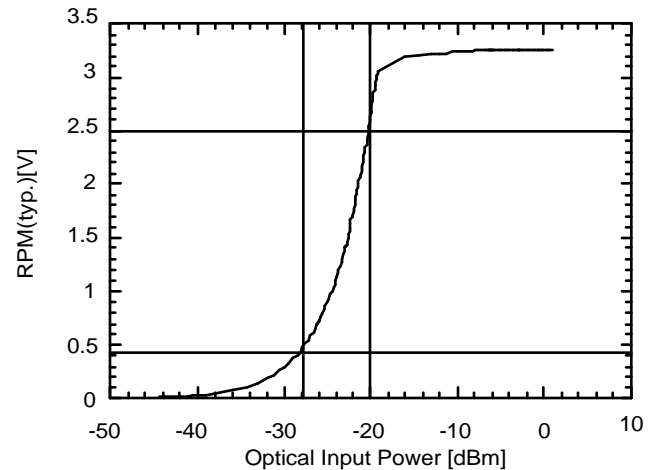

Figure 5. Input Power versus the Optical Input Monitor Voltage (typ.)
5. The relationship between the Optical Input Power and the Optical Input Monitor Voltage is shown in Figure 5.